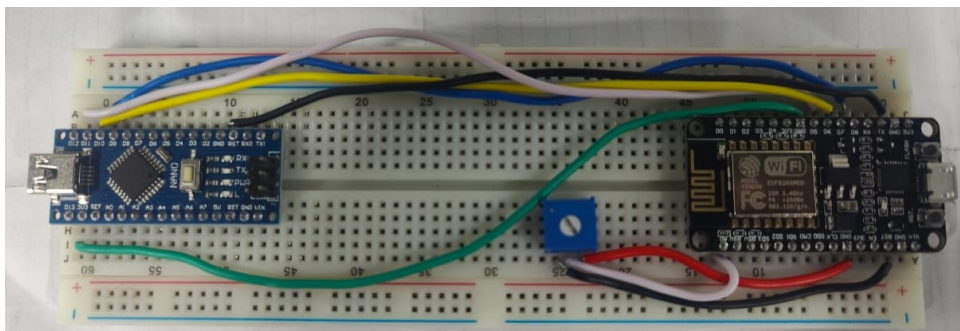

Figure 3: PartB-NodeMCU to Arduino Nano connections
**Note:** There may be a parallax error in the Figure 3 regarding the connections. This circuit image is provided for reference purposes only. Please follow the steps outlined in the procedure for correct pin connections.
- iv) Connect the 5V output from the CH2 of Keithley power supply to the top horizontal row labeled as 5V in the figure3.